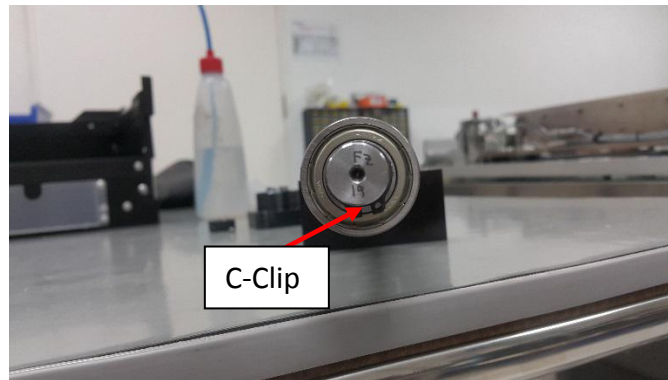
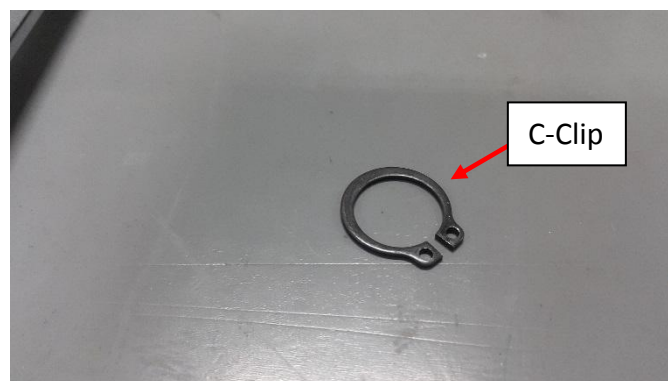

Figure 20 C-Clip
Figure 23 C-Clip (Removal Complete)
20. Remove the C-Clip from the ball screw as shown in Figure 20 to Figure 23.